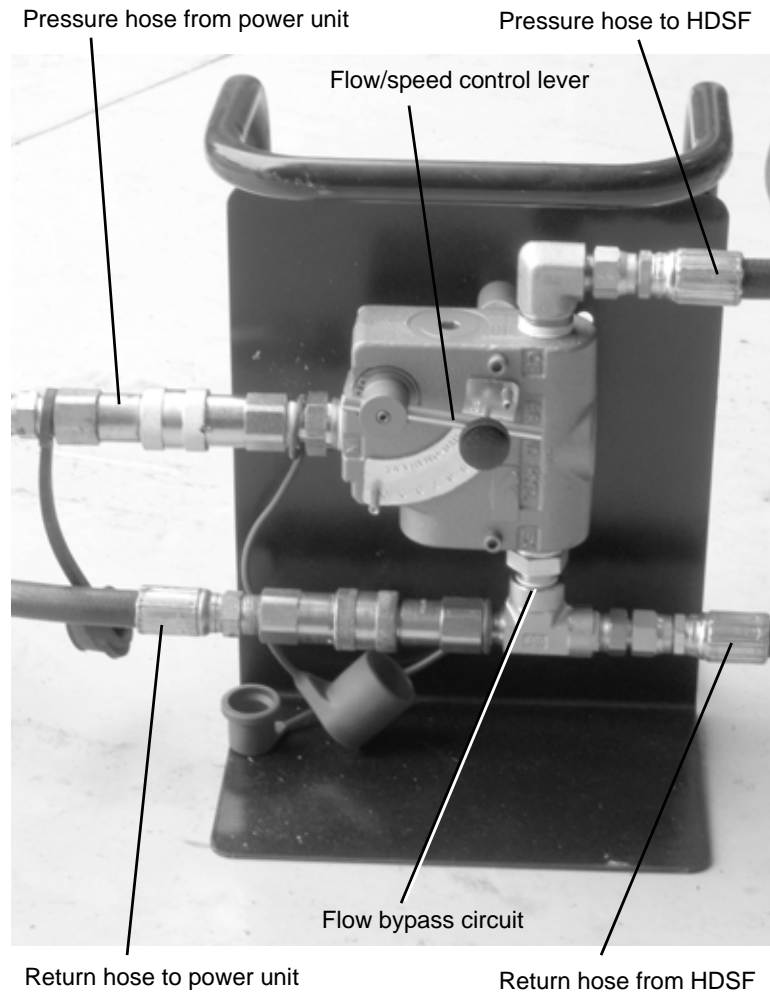

Figure 3-4. The flow control valve is used to set the cutting speed of the HDSF when there is no flow control on the hydraulic power unit.
- Speed control valve (for use with hydraulic power units without built-in flow control). See Figure 3-4.